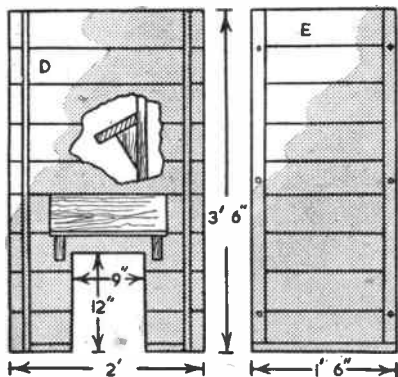
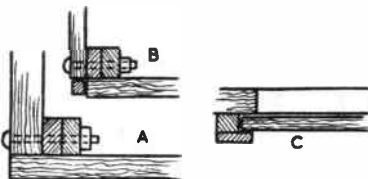

Fig. 1
Fig. 2
Fig. 1 shows the sides and ends, the dimensions given being suggested for indoor use, being small enough to fit in a corner of the room, or preferably, the landing. (A) in the diagram, (Fig. 2), shows the corner joints with $\frac{3}{4}$ in. by $1\frac{1}{2}$ in. timber as the posts. One strip of this material is nailed to the boards of the ends and one to back and front parts, all being securely held together with 3 in. steel bolts.
Cut the boards to the required lengths for sides, back, and front parts, necessary to make up the height of 3ft. 6ins. Employ tongued and grooved boards, $5\frac{1}{2}$ ins. wide and $\frac{5}{8}$ in. thick. These are kept together with the corner jointing strips, the positions of which are shown in Fig. 1, (D) being front, or back parts, and (E) the ends of the bin. In the front and back parts, the strips are spaced $1\frac{1}{8}$ ins. from the side edges. To support the floor, 1in. sq. fillets are nailed across at the bottom of all parts.
Cut the door itself from $\frac{3}{4}$ in. plywood. To keep it in place cover the side strips with $\frac{1}{2}$ in. by $1\frac{1}{2}$ in. wood, thus making a grooved runway for the door to slide up and down in. To the door fit a small metal knob. Above details are shown at (C), Fig. 2.
If the bin is for indoor use, a neat effect can be obtained by hiding the cross grained ends of the boarding by fixing the corner post strips of the front and back parts of the bin $\frac{3}{4}$ in. from the side edges, instead of $1\frac{1}{8}$ ins. This will leave a rightangled gap at the corners, which can be filled up with square section vertical strips making a neat finish, as shown (B), in Fig. 2.